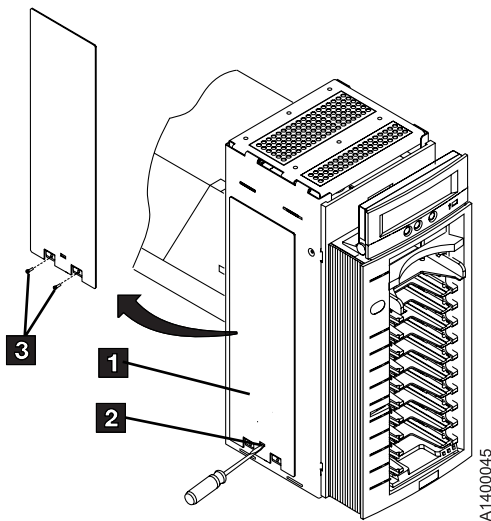

Figure 8-11. ACF Side Cover
- ___ a. See Figure 8-11. Remove the two screws **3**.